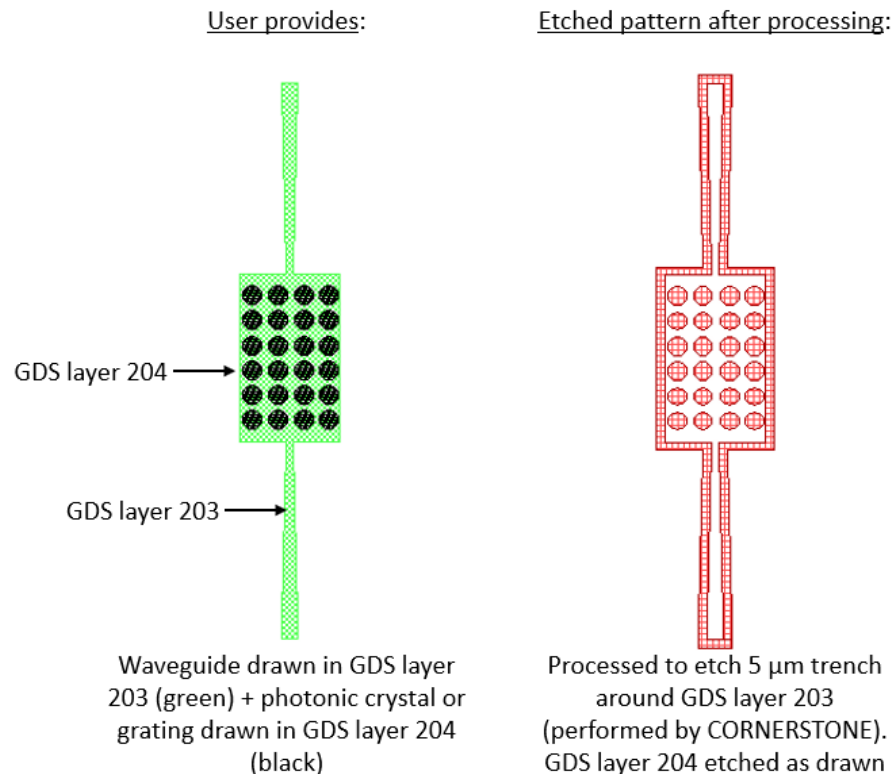

Figure 2 – Example photonic crystal structure using GDS Layers 203 & 204.
- Silicon Nitride Etch 1: 200 nm full etch to BOX – GDS Layer 204 (Dark field): Drawn objects on this layer will be exposed to the silicon nitride full etch to the BOX. An example photonic crystal structure is shown in Figure 2. The important thing to note here is that the waveguide layer drawn in GDS layer 203 should overlap the structures drawn in GDS layer 204, so that when the 5 μm trenches are generated by CORNERSTONE, a continuous waveguide remains. Note that the client should contact CORNERSTONE team if the design has photonic crystal structures with a diameter smaller than 600 nm to decide on whether structures need to be biased.